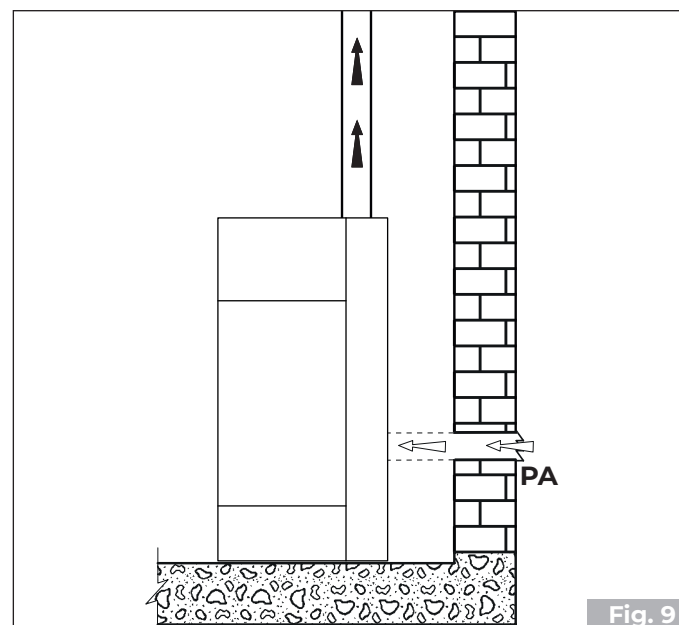

Fig. 9
- it can come from the installation room or from suitable adjacent rooms (**Fig. 9**)
Create the air intake on the wall (**Fig. 9 - PA = Air Intake**), and leave the appliance to withdraw the room air, making sure to connect the section of corrugated pipe on the air inlet pipe, if supplied, fixing it with the strap and folding it slightly downwards to prevent any resonance effects.